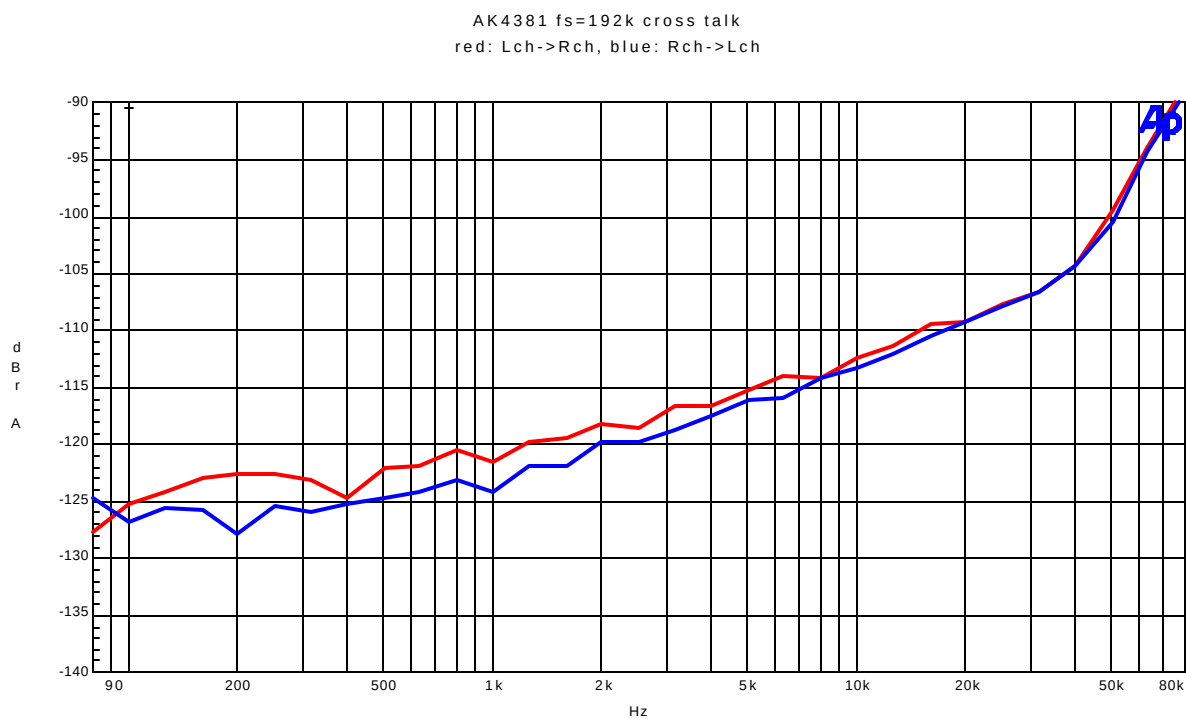

Figure34. Cross-talk (Input level=0dBFS)
- Figure34. Cross-talk (Input level=0dBFS)